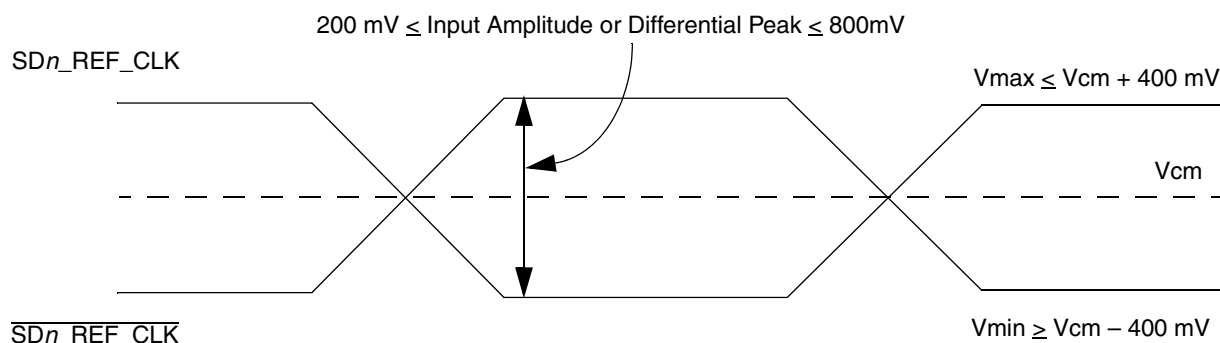

Figure 38. Differential Reference clock input DC requirements (external AC-coupled)
- For **external AC-coupled** connection, there is no common mode voltage requirement for the clock driver. Since the external AC-coupling capacitor blocks the DC level, the clock driver and the SerDes reference clock receiver operate in different command mode voltages. The SerDes reference clock receiver in this connection scheme has its common mode voltage set to SGND_SRDS. Each signal wire of the differential inputs is allowed to swing below and above the command mode voltage (SGND_SRDS). Figure 38 shows the SerDes reference clock input requirement for AC-coupled connection scheme.